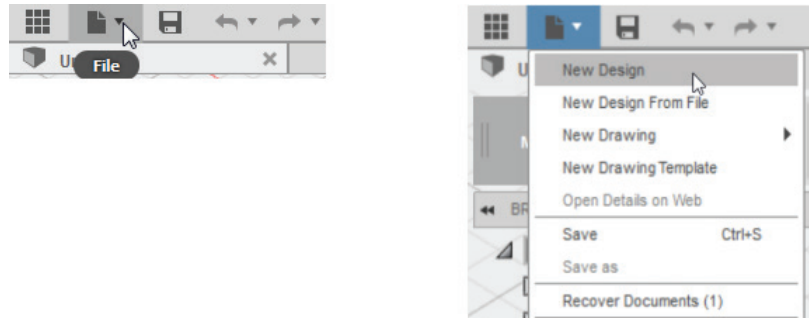

Figure-7. File Menu
- Click on the **File** drop-down and select the **New design** tool as shown in Figure-7. A new document will open.